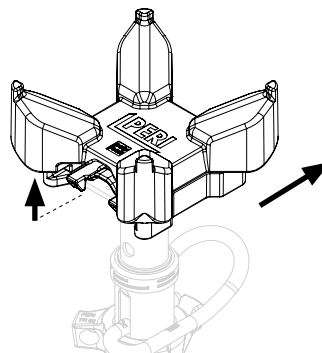

Fig. D1.01c
2. Lift the locking clip (31.2) with one finger of the upper hand and withdraw the DFH prophead (31). (Fig. D1.01c)